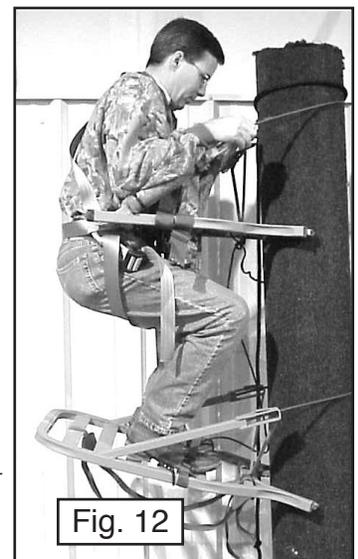

Fig. 12
Step 5. To re-engage the Cobra XLS, simply rotate the edge against the tree upwards, as shown in **Figure 12**.